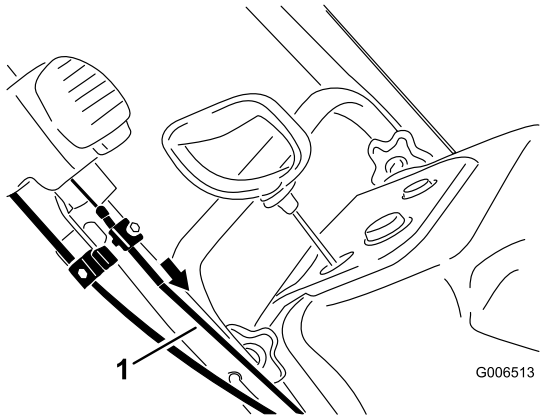

Figure 42
5. Pull the upper cable casing forward until you remove the slack in the cable, and tighten the screw on the upper cable clamp securely (Figure 42).